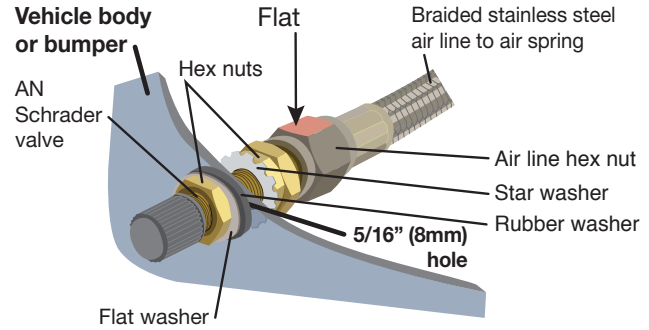
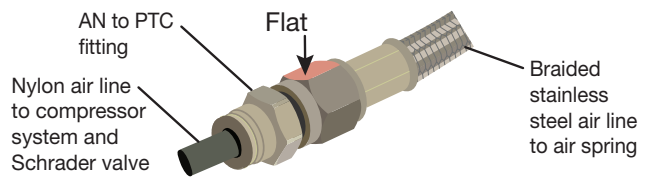

Fig. 16
Fig. 17
- For Ultimate Plus kits, tighten the air line hex nut finger-tight, then use 2 wrenches to turn 1 additional flat (1/6 of one full turn). Do not overtighten (Fig. 16 or Fig. 17). The easiest way to tighten the fitting is off the vehicle.